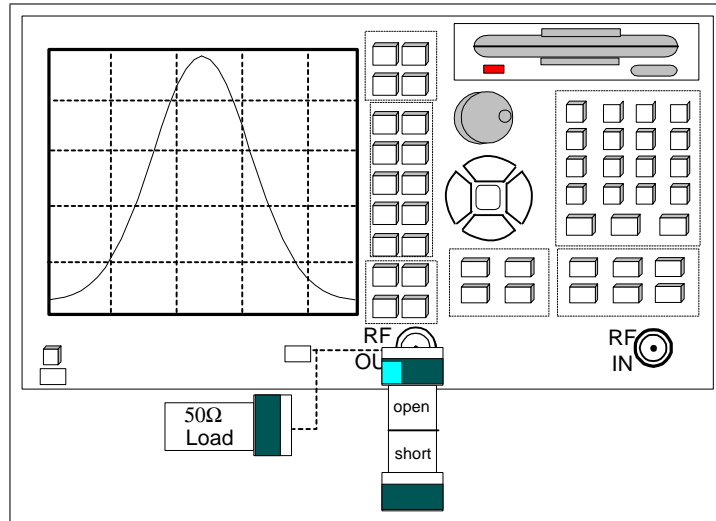

Fig. 7 Calibration for Reflection measurement
3. Connect an **open** to the reflection port and press **Open(f)** (see figure 7).